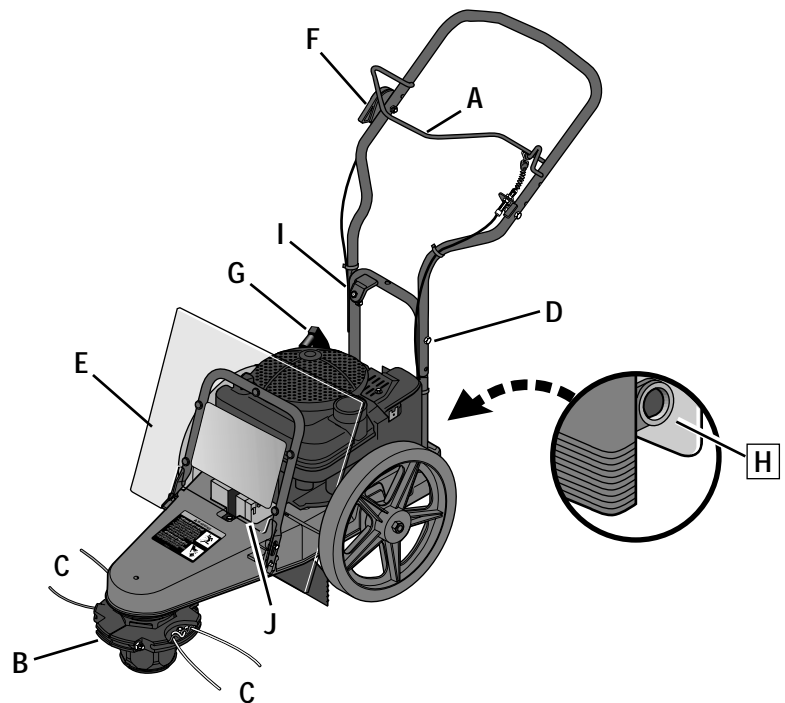

Figure 3-1: Features and controls (electric start model shown).
Pull the control bail (A, Figure 3-1) up against the handlebar (engage bail) to start rotation of the trimmer head. Let go of the control bail (disengage bail) to stop the trimmer head.
The trimmer head (B, Figure 3-1) is adjustable to an infinite number of height settings from 1-1/2" to 4-1/2" (see "Adjust Line Cutting Height" in Section 4).
The two trimming lines (C, Figure 3-1) are secured to wire-looped line holders. Replacing the trimmer lines is easy (see "Changing Trimmer Lines" in Section 5).
The handlebar (D, Figure 3-1) has two height settings (see "Adjust Handlebars" in Section 4).
A heavy-duty plastic shield (E, Figures 3-1 and 3-1A) prevents debris build-up on the engine. The shield tilts forward for access to the engine.
Use this lever (F, Figure 3-1) to change engine speeds and to stop the engine. The throttle settings are shown on a decal next to the lever.
The recoil starter (G, Figure 3-1) is used to pull start the engine.
The fuel primer button (H, Figure 3-1) allows a cold engine to be primed for faster, easier starting.
The ignition keyswitch (I, Figure 3-1) activates the engine starter motor to start the engine. The keyswitch does not have an engine stop position. Use the Engine Throttle Control (F) to stop the engine.
The battery (J, Figure 3-1) activates the engine starter motor when the keyswitch is turned to the start position.
1. Lift and tilt plastic debris shield (E, Figure 3-1) forward.